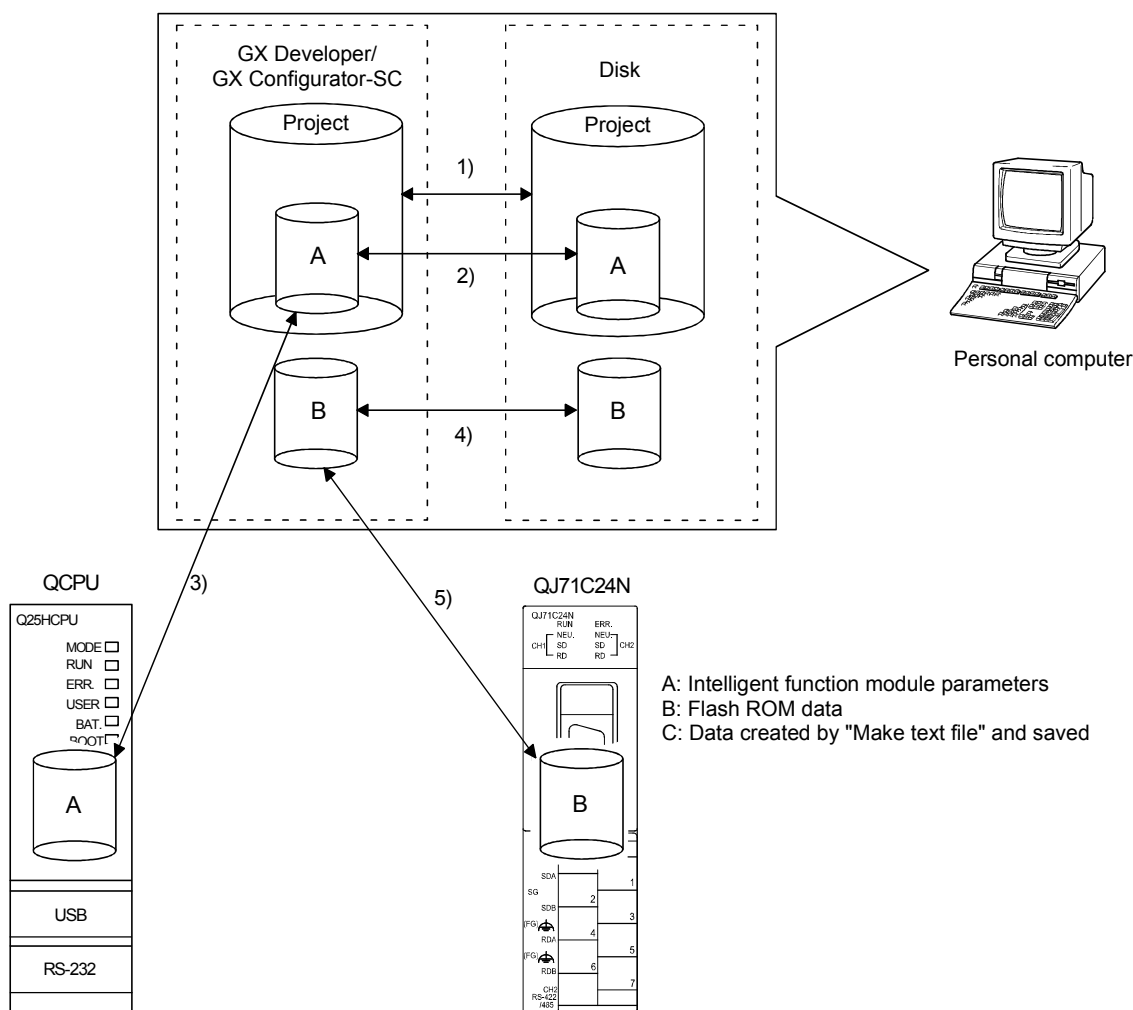

Figure 8.1 Correlation chart for data created with the utility package
The following data or files that are created with the utility package can be also handled in GX Developer. Figure 8.1 shows respective data or files are handled in which operation.
- (b) Steps 1) to 3) shown in Figure 8.1 are performed as follows:
- (b) Steps 4) and 5) in Figure 8.1 are performed as follows: